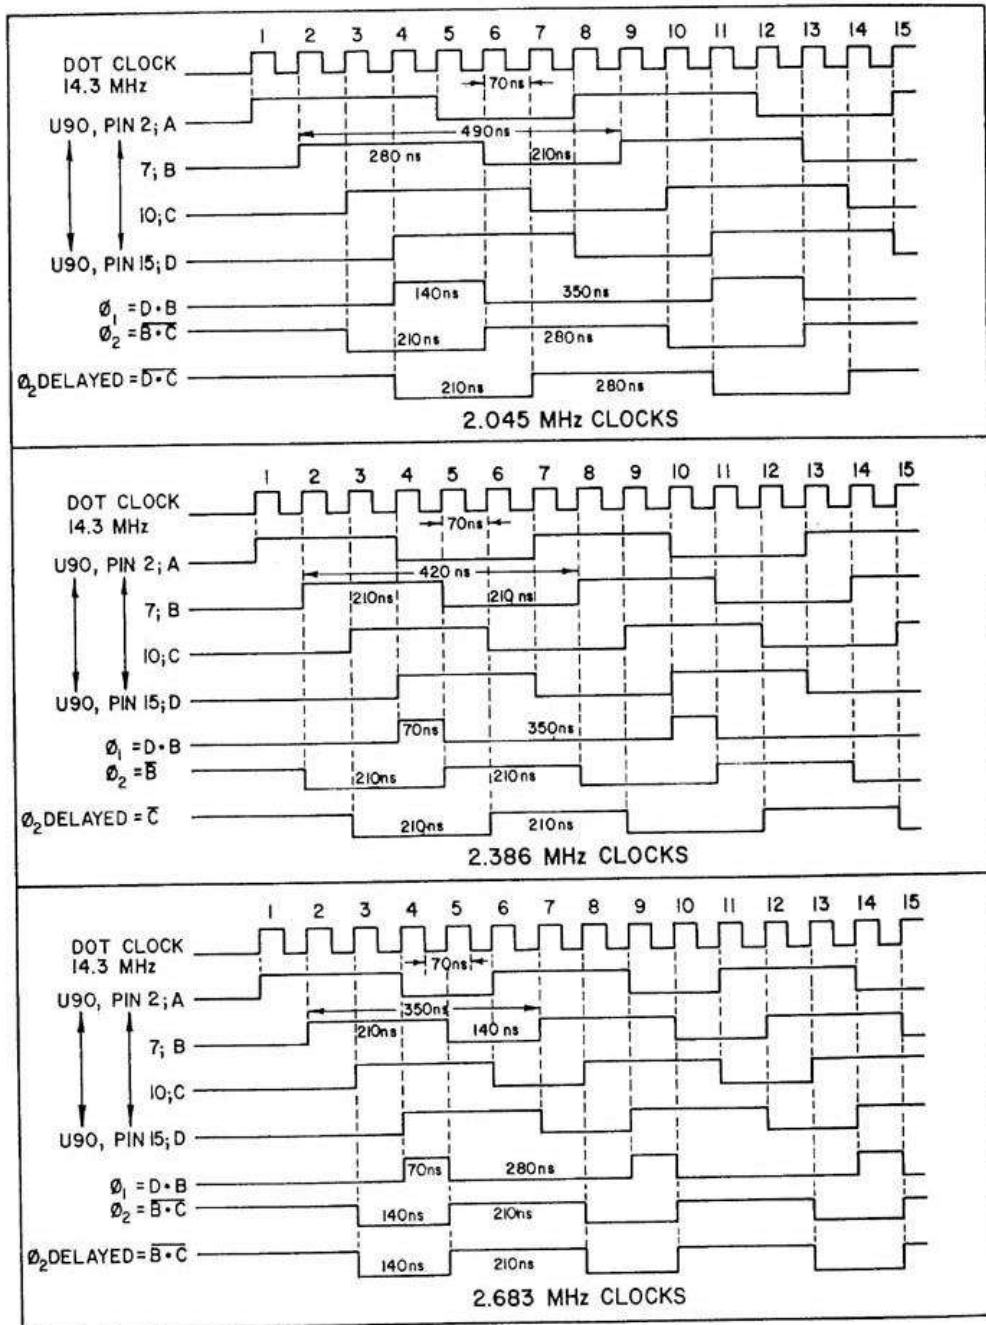

Figure 8-1. CLOCK GENERATOR TIMING
Sol is normally configured with the D-to-E jumper installed to meet the clock requirements of the 8080A CPU. With this jumper installed, the outputs of the third and fourth U90 stages are applied to pins 9 and 10 of U91. Assuming U90 is reset to zero, pin 8 of U91 is high, and on the first clock pulse the counter contents change to 1000. (Refer to 2.045 MHz Clocks portion of Figure 8-1 on Page VIII-11.) Pin 8 of U91 cannot change until the fourth state (1111), at which time it goes to zero. On the fifth clock pulse the counter changes to 0111. Again, pin 8 of U91 cannot change from zero until one of its inputs changes. As shown in Figure 8-1, the third U90 stage (C) changes on the seventh clock. The counter now stands at 0001, and on the eighth clock the counter flips to 1000 and the count cycle repeats. The pattern is thus 1000, 1100, 1110, 1111, 0111, 0011, 0001. U90 consequently goes through seven states. We have a 3.5-stage counter that divides DOT CLOCK by seven to supply a 2.045 MHz output.
With no jumper installed, pin 10 of U91 is pulled high by R105, and U91 operates as a simple inverter for feeding back the output of the third U90 stage. In effect we have a three-stage counter that operates in a similar manner to that described in the preceding paragraph. It goes through six states (100, 110, 111, 011, 001, 000) to divide DOT CLOCK by six which produces a 2.386 MHz output. The timing for this option is also shown in Figure 8-1.
Let's now put the D-to-C jumper in. The feedback in this case is the NAND combination of the outputs from the second (B) and third (C) U90 stages. This gives us a 2.5-stage counter that divides DOT CLOCK by five. As can be determined from the 2.863 MHz portion of Figure 8-1, the counter has five states with this option, and the count pattern is: 100, 110, 111, 011, 001.
$\phi 1$ on pin 6 of NAND gate U91 is low only when its two inputs are high, and this happens only when there is a 1 in the second and fourth stages of U90. This occurs during the time between the fourth and sixth fundamental clocks for 2.04 MHz operation--the fourth and fifth clocks for 2.38 MHz and 2.86 MHz. Keeping in mind that the fundamental clock period is 70 nsec, it is readily seen that the low frequency pulse train on pin 6 of U91 has a pulse width of 140 nsec and the two higher frequency pulse trains have a pulse width of 70 nsec. (Refer to Figure 8-1 on Page VIII-11.)
The A-to-B jumper is installed when the 8080A or 8080A-1 CPU is used in the Sol. Note that the output ($\phi 2$) on pin 11 of NAND gate U91 is low only when the output on pin 3 of NOR gate U91 is high. (This section in U91 is actually a two-input NAND gate which is functionally the same as a two-input NOR gate.) Pin 3 of U91, with the A-to-B jumper in, is high when either the second (B) or third (C) U90 stage is at zero. As shown in Figure 8-1, this occurs between the sixth and tenth DOT CLOCKS, or 280 nsec (4×70 nsec), for 2.04 MHz operation. For 2.863 MHz, it occurs between the fifth and eighth DOT CLOCKS for 210 nsec. The section of NAND gate U91 with its output on pin 11 inverts the output on pin 3 of U91 and introduces a slight delay to insure there is no overlap between $\phi 1$ and $\phi 2$.